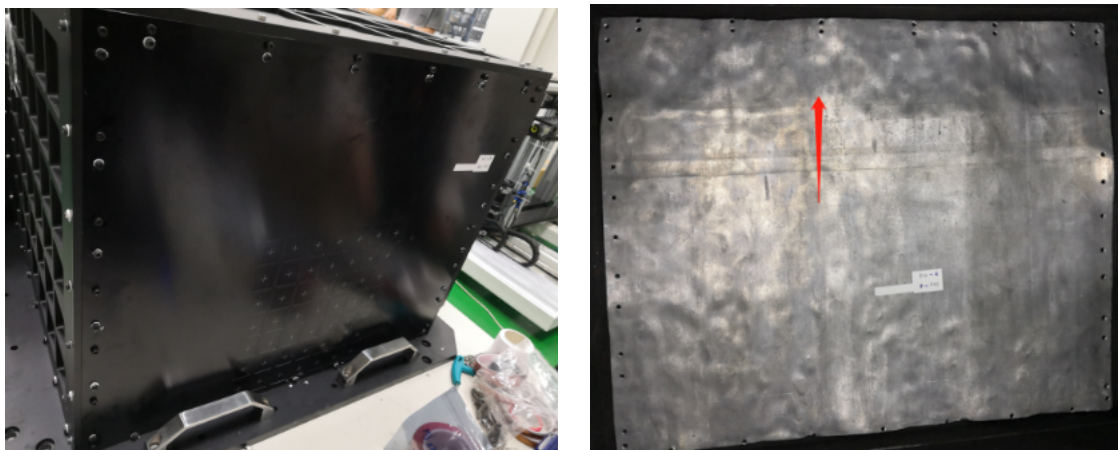

Figure 2 3 incident side Al panel and lead panel
5. Adjust the lead plate position, and make sure the red cross position mark is on correct position. Please refer to Figure 2 2. Install four screws containing two sizes of gaskets, then fix them with tapes.
7. Cover the top plate of box and mount screws. The top plate is not symmetrical. In the correct installation, the incident side panel is nearer the tag cry- 1 than rear side panel. Please refer to Figure 2 1.